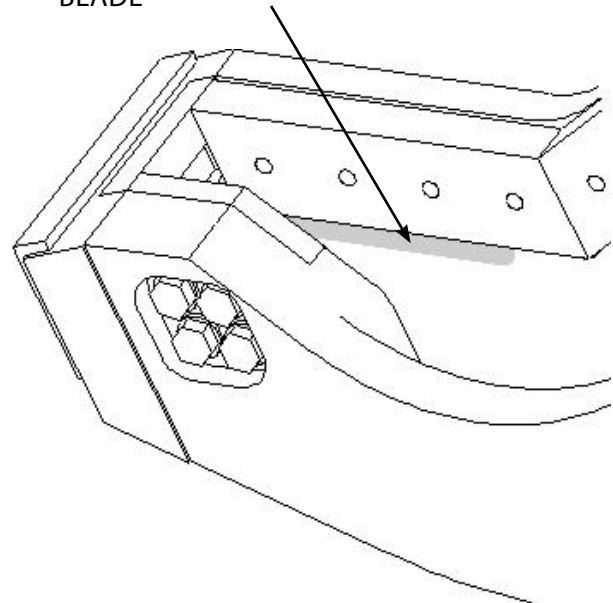

FIGURE 5-37
7. If necessary, build up the area beneath the edge of the secondary blade so it is flush with the blade (see Figure 5-37). The blade should not stick out beyond the edge of the seat in this area.